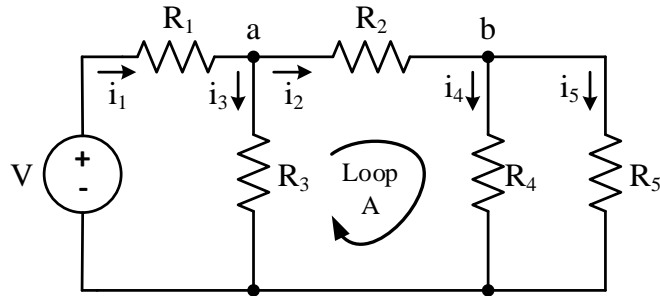

Figure 3. Resistor Network with Nodes  $a$  and  $b$ , note Loop A.
Using a breadboard, assemble the network shown in Figure 3. Using the DMM as a voltmeter, adjust the supply voltage,  $V$ , from the DC power supply, to obtain ten volts.
Measure and record the voltage across each resistor shown in Figure 3. Be sure to record the polarities of the voltages.
Using the DMM as an ammeter, measure and record the currents  $i_1$  through  $i_5$  shown in Figure 3. You will have to insert the ammeter in series with the resistors one-by-one, and then replace the resistor to its original position prior to doing the next measurement. Keep track of the direction of the currents you measure.
1. Verify KVL for the center loop (Loop A) as shown in Figure 3.
2. Verify KCL for node a as shown in Figure 3.